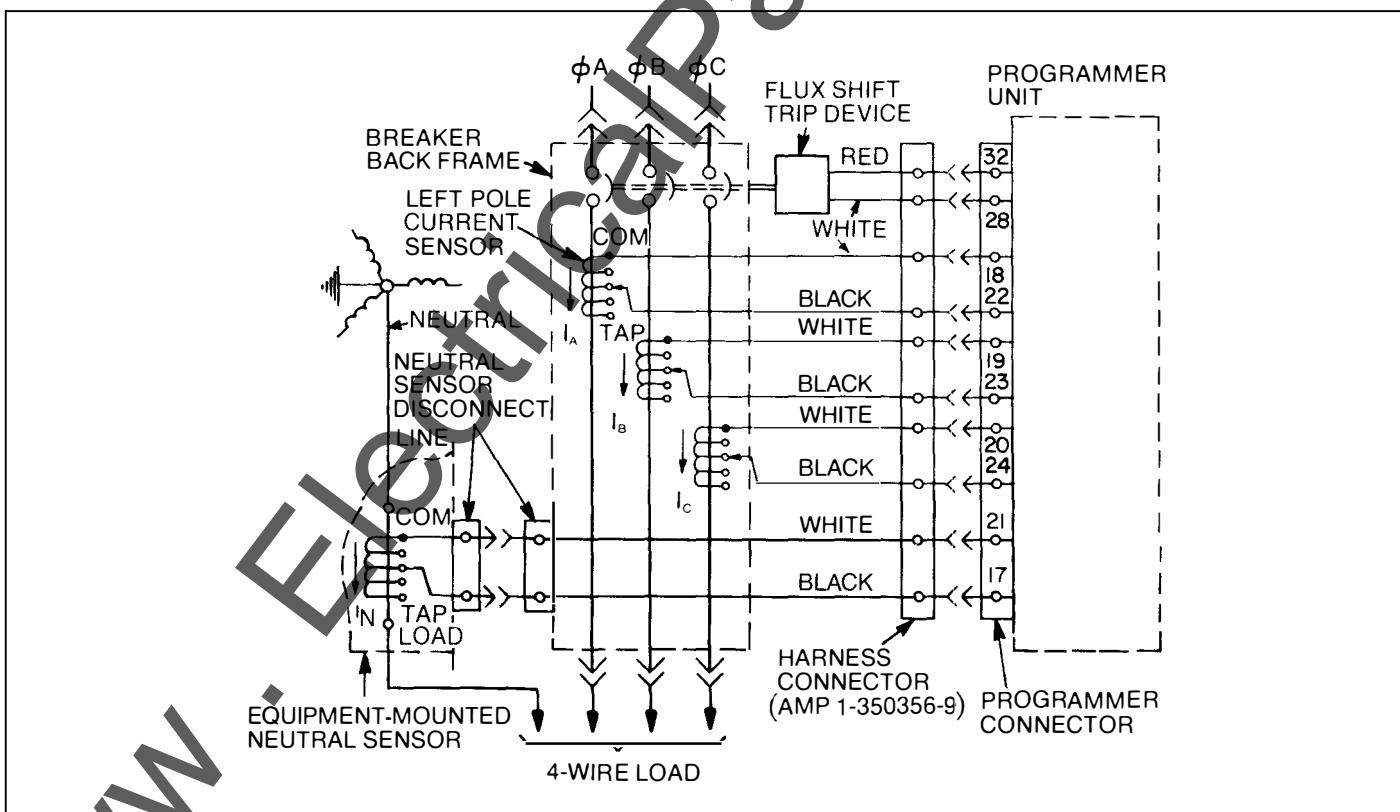

Fig. 6-3. Cabling diagram — MicroVersaTrip® RMS-9 with ground fault on 4-wire load
4. On ground fault breakers serving four-wire loads, check that the neutral sensor is properly connected. See cabling diagram Fig. 6-3. In particular, the following: